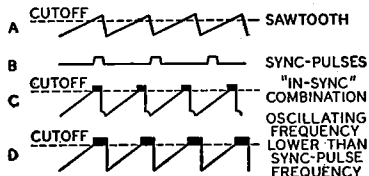

Fig. 102—Sawtooth and sync pulses in synchroguide circuit.
V_1 . The waveforms shown in Fig. 102 illustrate the sawtooth and sync pulses (A and B) and their proper "in-sync" combination (C). The sync pulse occurs partly during the portion of the sawtooth voltage in which the triode V_1 draws current. Any shift in sync pulse as it is superimposed on the sawtooth, therefore, will affect the amount of conduction of the control tube. A change in control-tube conduction ultimately affects the bias on the oscillator-tube grid by changing the voltage to which the capacitor C_1 in the cathode circuit may charge. An increase in the positive bias increases the frequency of oscillation.
For example, waveform D in Fig. 102 illustrates a condition in which the sawtooth voltage is advanced in phase with respect to the sync pulses. The widening of the pulse which occurs at the corner of the sawtooth waveform allows the control tube to conduct more current and, consequently, allows the capacitor C_1 to charge to a higher voltage. This increased reference voltage also appears in the grid circuit of V_2 and makes the grid more positive. The increased grid voltage then speeds up the frequency of oscillations until proper synchronization results.